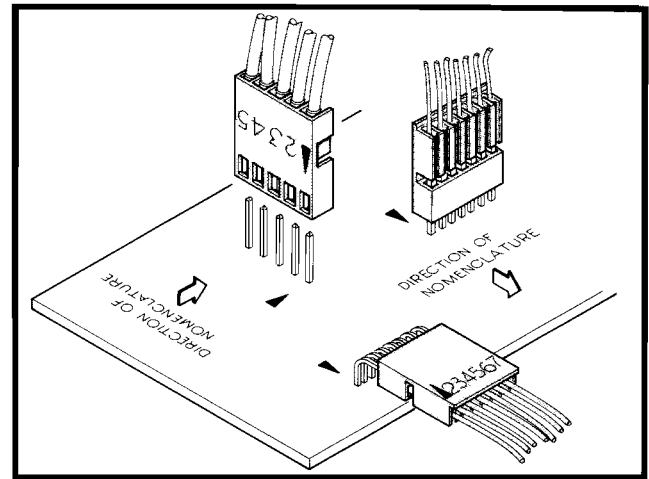

Fig. 4-2. Multi-connector holder orientation.
**Multi-Connector Holders.** The multi-connector holder is keyed with two triangles, one on the holder and one on the circuit board. When a connection is made perpendicular to a circuit board surface, the orientation of the triangle and the slot numbers on the connector holder is determined by the direction of the nomenclature marking (see Fig. 4-2).